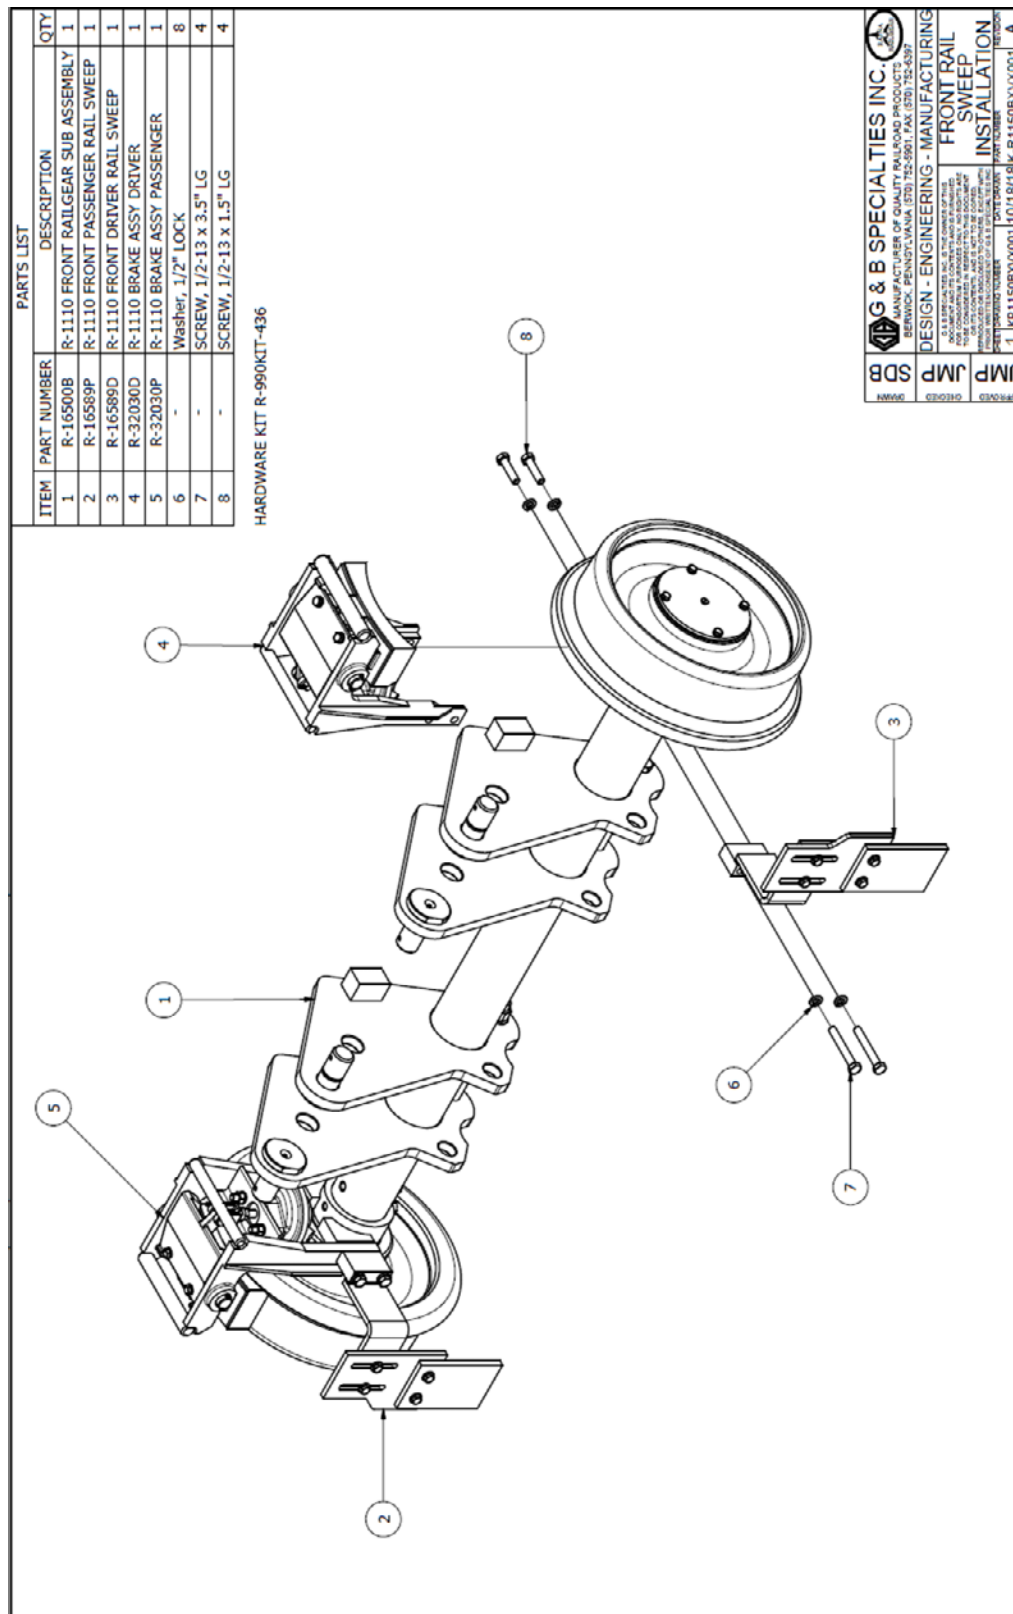

Figure 4-1 Rail Sweep Installation with Cobra Brakes
2. Fasten the brakes with the provided hardware, as shown in Figure 4-1, through the railsweep bracket (use longer provided bolts on the side with the railsweep) towards the front of the vehicle.